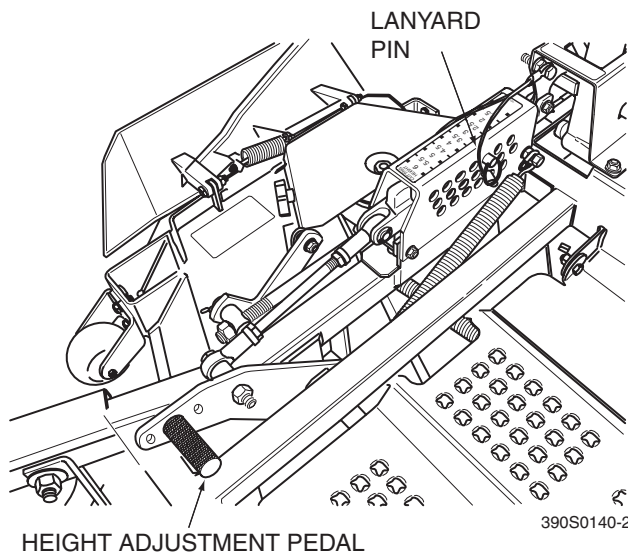
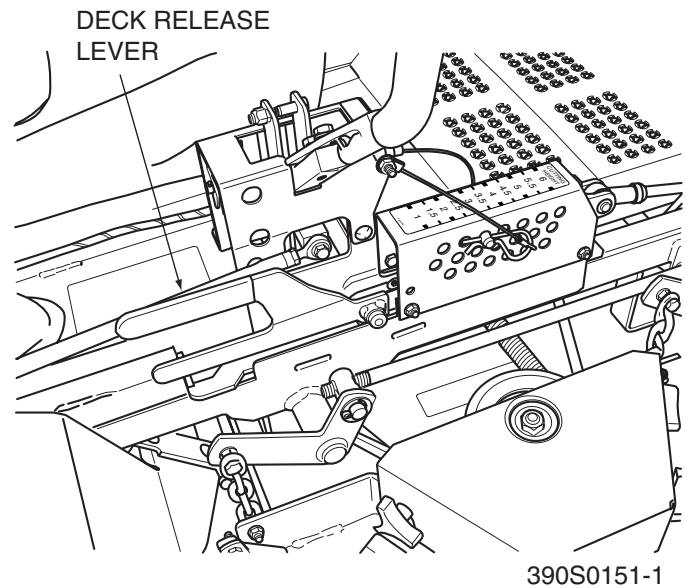

Figure 4-6 Adjusting Cutting Height
Figure 4-7 Deck Release Lever
1. Push the cutting height adjustment foot pedal all the way forward using your right foot until it locks in place. (Figure 4-6).
2. Insert the lanyard pin into the cutting height index at the desired cutting height. Push forward on the deck lift foot lever, hold in place and lift up on the deck release lever, (Figure 4-7). Slowly release the foot pedal. A deck height decal is located on the cutting height index as an aid in adjusting the deck to the desired height. (Figure 4-6).